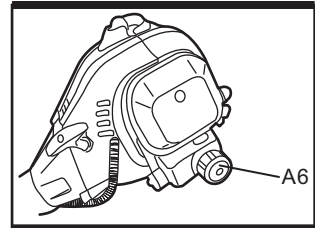

Fig. 8b
- 6). Fill correctly mixed fuel/oil into the tank using a fuel funnel (NOT SUPPLIED) fitted with a filter to avoid debris entering the tank. Do not overfill. Leave a minimum 5 mm of space between the top of the fuel and the inside edge of the tank to allow for expansion. (See Fig. 8b, 8c)